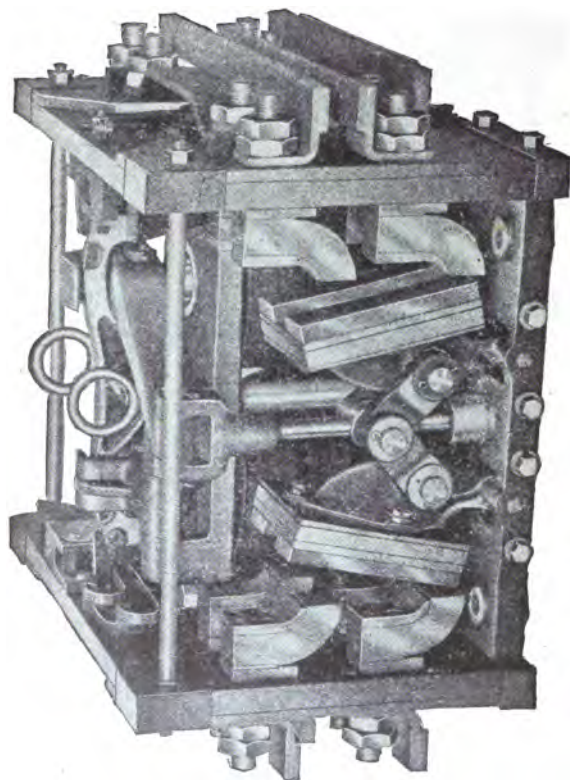

Fig. 505. Reverser for Locomotive.
49. REVERSER (Fig. 505) (see general description, paragraph 9, Suburban Cars). There are two reversers; one in each end compartment. The No. 1 reverser, which is on the main switch end of the locomotive, has the armature and field leads of the two motors